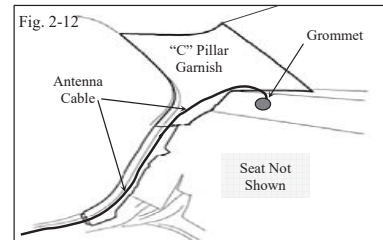

Fig. 2-12
(2) From the rear seat area continue routing the cable up the rear part of the door opening and tuck it in between the seat cushion and rear door scuff plate as shown. (Fig. 2-12)